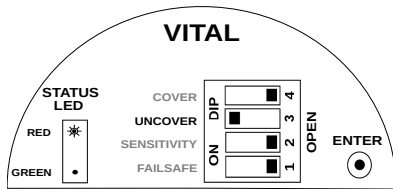

Figure 14: Uncover Delay Switch Position
2. Set the UNCOVER switch to CLOSE (Opposite of OPEN in a DIP switch) position as shown in Figure 14.